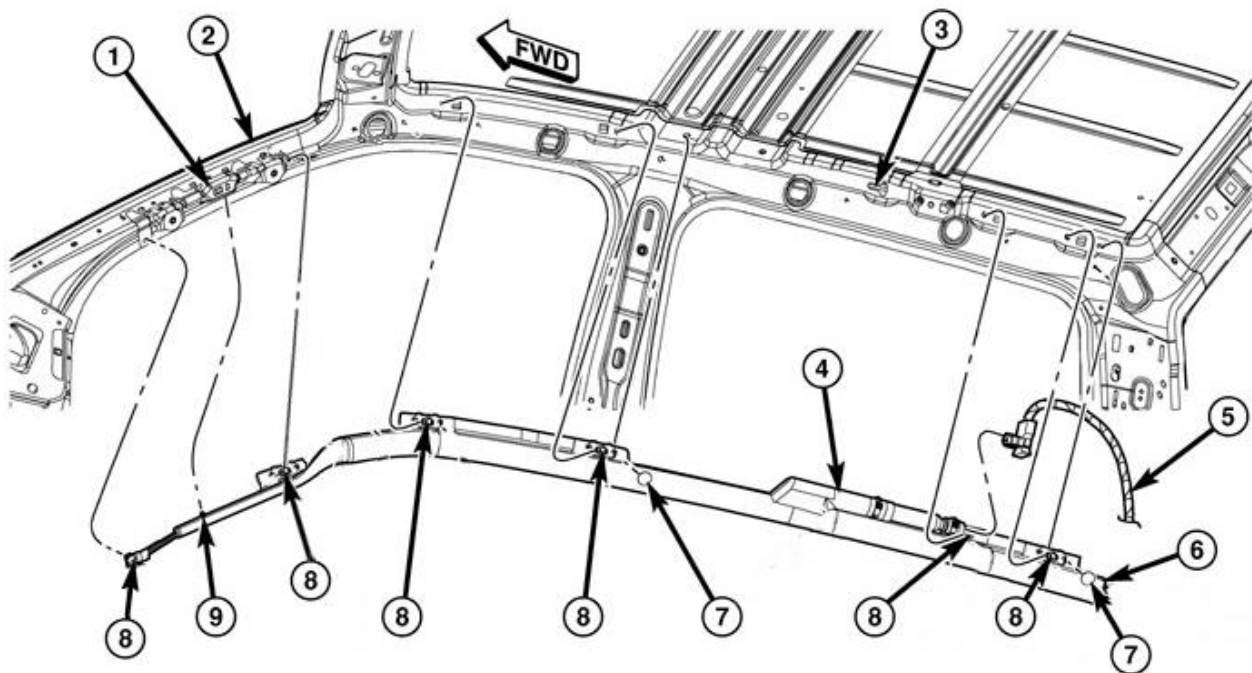

Figure 17 – Side Curtain Airbag
27. The body wire harness connector (5) is secured by integral latches to the connector receptacle on the inflator (4). Pinch both latches firmly, then pull the connector straight out from the airbag inflator to disconnect it from the connector receptacle (Figure 17).
28. Remove the six bolts (8) that secure the side curtain airbag (6) to the inner roof rail and A-pillar (Figure 17).
29. Disengage the push-in retainer (9) that secures the side curtain airbag tether to the inner A-pillar (1) and the two push-in retainers (7) that secure the side curtain airbag to the inner roof rail (Figure 17).
31. Remove the CAB (6) from the vehicle as a unit and **DISCARD** following local ordinances and recommended procedures for handling and disposal of Non-Deployed Supplemental Restraints (Figure 17). Provided packaging is not authorized for the transport of the recalled CAB Module. Parts will need to be either deployed on-site or transported in alternative approved containers.
33. Position the **NEW** CAB (6) into the vehicle as a unit (Figure 17).
35. Engage the two push-in retainers (7) that secure the side curtain airbag to the inner roof rail and ensure the tether is not twisted then engage the plastic push-in retainer (9) that secures the side curtain airbag front tether to the assist handle bracket on the inner A-pillar (1) (Figure 17).
36. Working from rear to front, install and tighten the six bolts (8) that secure the side curtain airbag (6) to the inner roof rail and A-pillar and ensure the tether is not twisted. Tighten the bolts to 7 N·m (62 in. lbs.) (Figure 17).
37. Connect the body wire harness connector (5) for the side curtain airbag to the connector receptacle of the inflator (4). Be certain that each connector is fully engaged in its receptacle by listening carefully for a distinct, audible click as the connector latches snap into place (Figure 17).